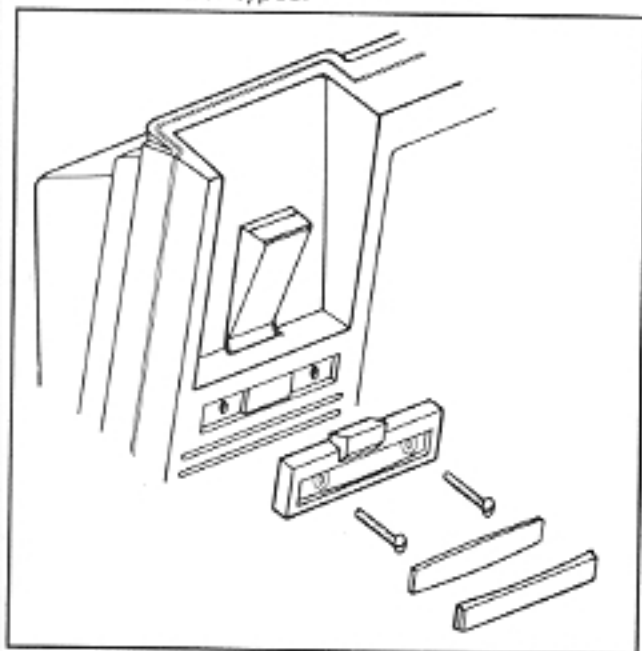

FIGURE 41—HANDSET HANGER KIT
08.31 Refer to Figure 41, the optional handset hanger kit (P/N HWMA, available from your Toshiba supplier) must be used whenever the EKT is wall-mounted. (When ordering, specify if S EKT or optional EKT—the HWMA is included in the SKWM kit.) The remainder of the installation is the same for all EKT types.